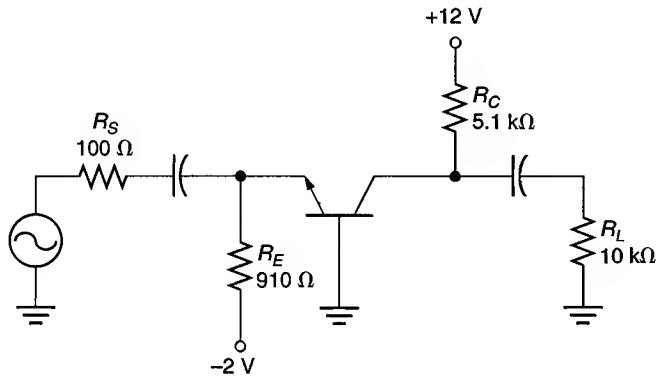

FIGURE 10.28
23. Determine the value of A_v for the amplifier in Figure 10.28.
25. Determine the values of Z_{in} and Z_{out} for the amplifier in Figure 10.28.
30. The circuit shown in Figure 10.28 has a constant V_C of +12 V_{dc}. Discuss the possible causes of the problem.